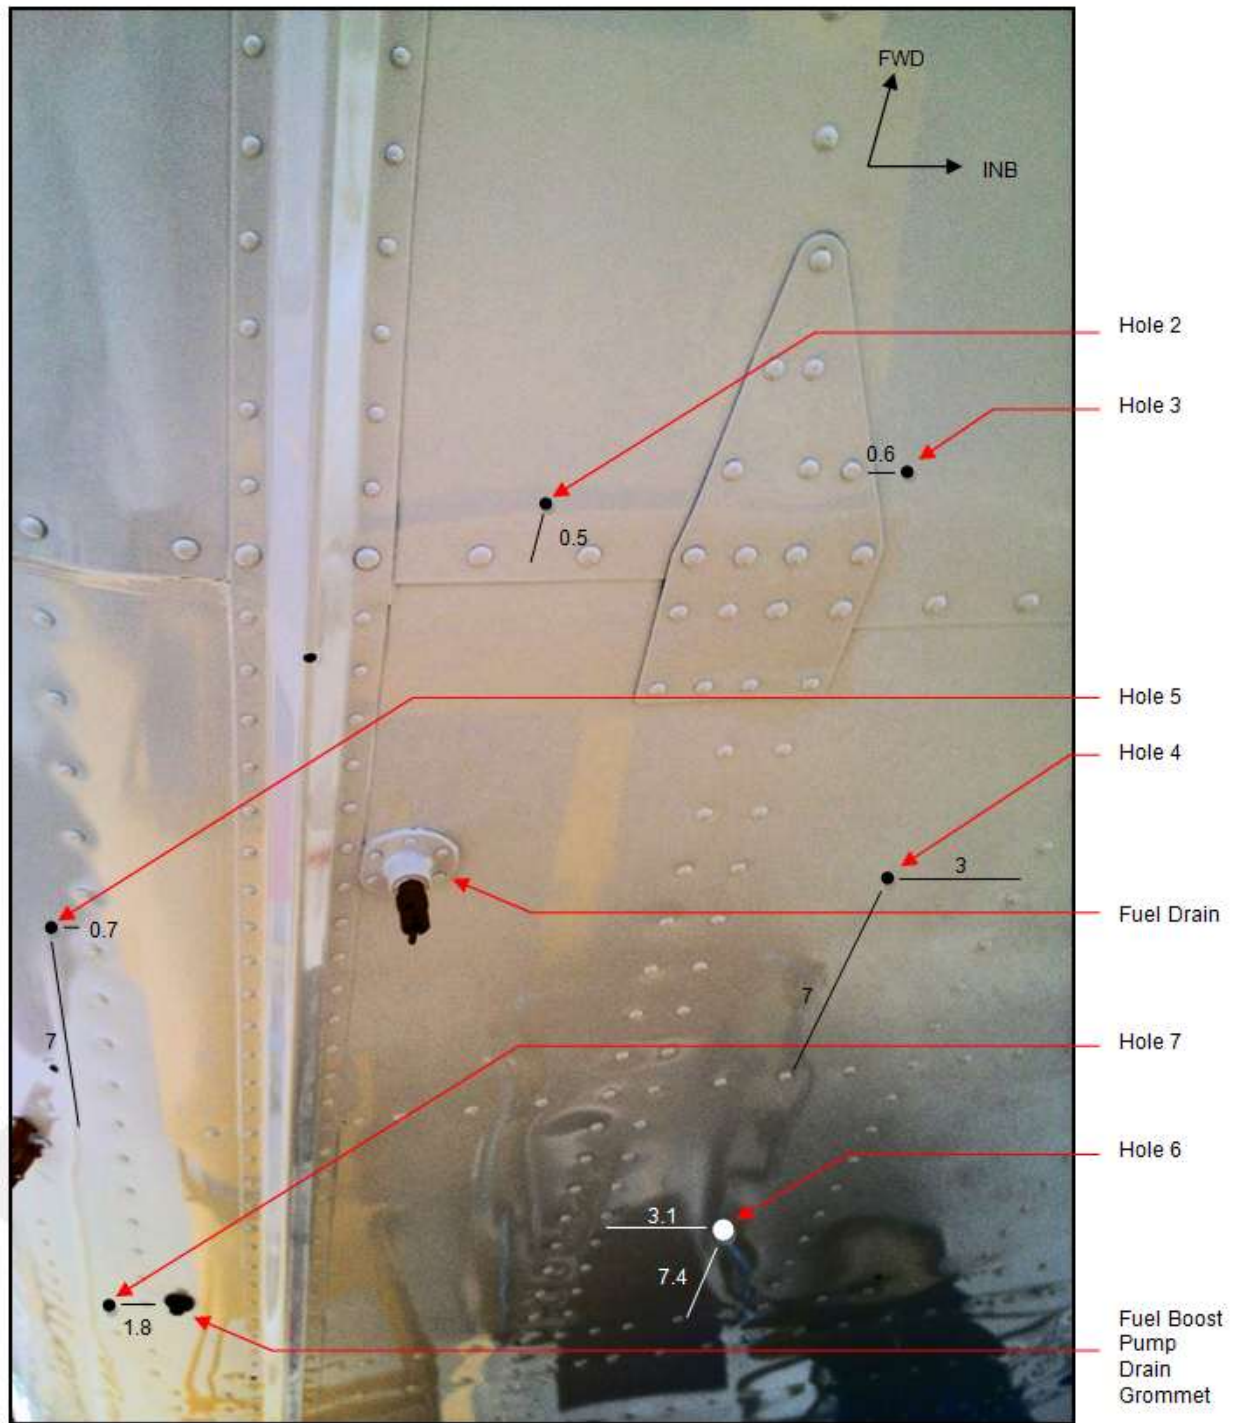
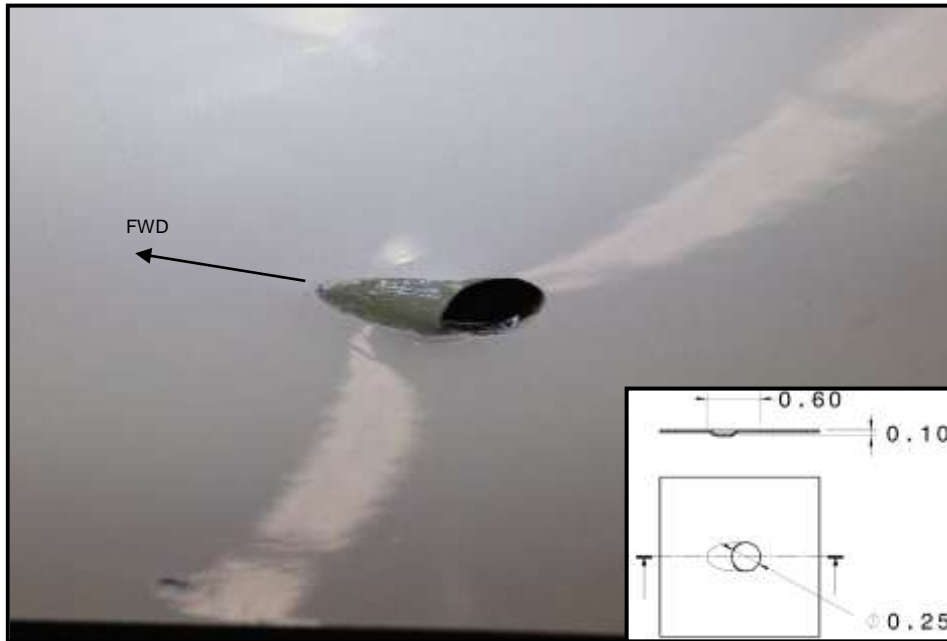

Figure 10: Hole Locations Viewed from Bottom of Belly Skin (Dimensions in inches)
Figure 11: Fluted Hole (Dimensions in inches)
Figure 10 provides an overview of the new holes when viewed from underneath the aircraft fuselage belly skin.
15. Deburr holes. To prevent moisture from entering the new drain holes (Figure 10), press 'half-moon flute' into surface of skin, Figure 11 (approximate dimensions shown).
Measurements referred in Figure 11 are approximate and shall be used as a reference only.